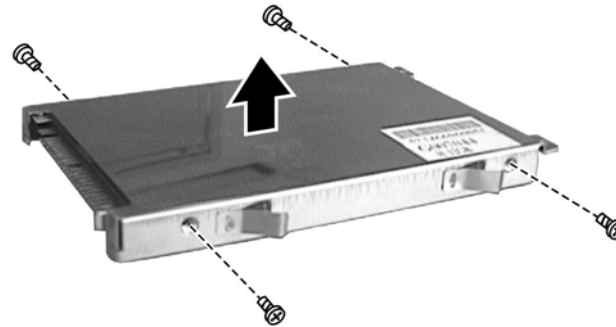

Figure 2-10
4. Remove four screws to separate the hard disk drive from the metal shield. (figure 2-10)